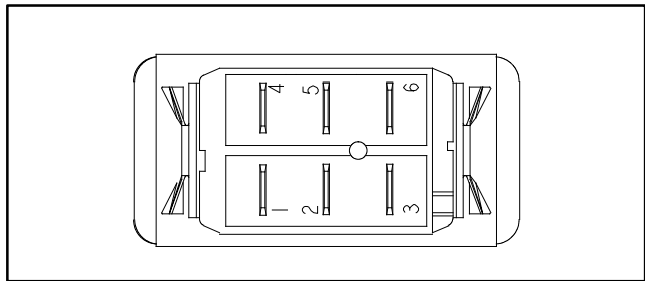

Figure 20
4. With the use of a multimeter (ohms setting), the switch functions may be tested to determine whether continuity exists between the various terminals for each direction switch position. The direction switch terminals are marked as shown in Figure 20. The circuitry of this switch is shown in the chart below. Verify continuity between switch terminals.